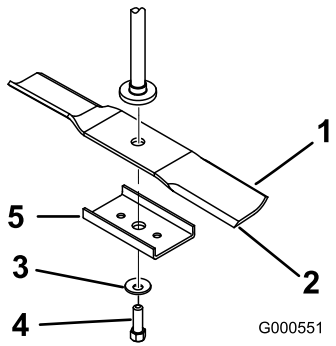

Figure 49
2. Remove the blade bolt, the curved washer, the blade stiffener, and the blade from the spindle shaft (Figure 49).
2. Install the blade stiffener, the curved washer (cupped side toward the blade), and the blade bolt (Figure 49).
1. Install the blade onto the spindle shaft (Figure 49).